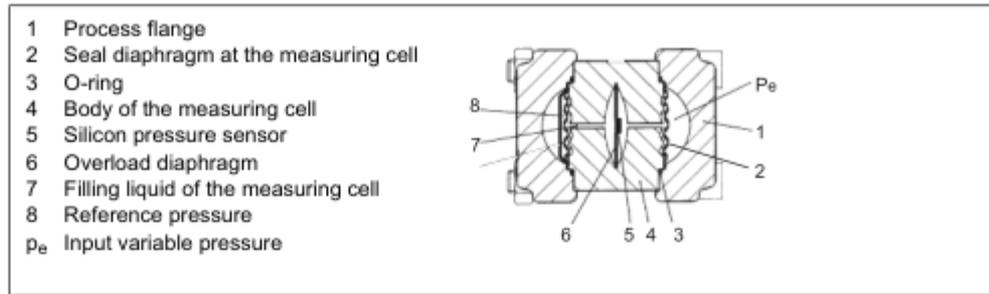

Figure 9 Measuring cell for absolute pressure, functional diagram
The absolute pressure is transmitted via the seal diaphragm (6, Figure 9, pg. 20) and the filling liquid (7) to the silicon pressure sensor (3). On exceeding the measuring limits, the overload diaphragm (5) is deflected until the seal diaphragm (6) comes into contact with the body of the measuring cell (4) and protects the silicon pressure sensor (3) against overloading. The pressure difference between the input pressure (p_e) and the reference pressure (8) on the low pressure side of the measuring cell flexes the measuring diaphragm. Four piezo-resistors in bridge circuit doped in the measuring diaphragm change their resistance as a result. The change in resistance causes a bridge output voltage proportional to the absolute pressure.